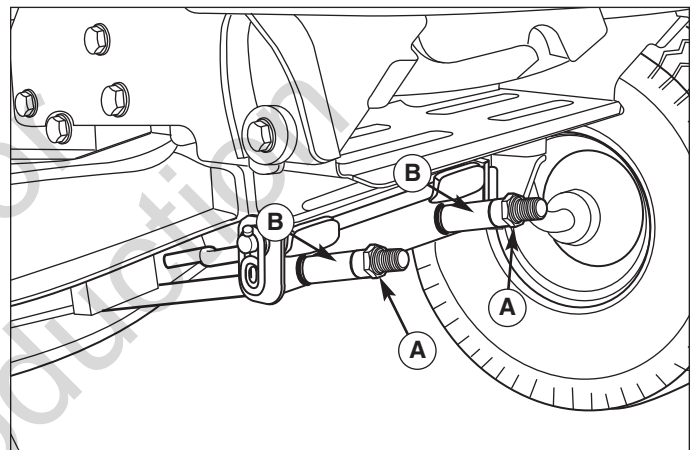

Figure 40. Leveling The Mower Front-to-Back
8. To raise front of mower deck, tighten locknuts (B, Figure 40) and against spacers (B). To lower front of mower deck, loosen locknuts (A). Locknuts must be turned evenly on both sides to keep deck level.
9. Re-check the blade measurement then tighten the front nut (B) against the bracket to secure.